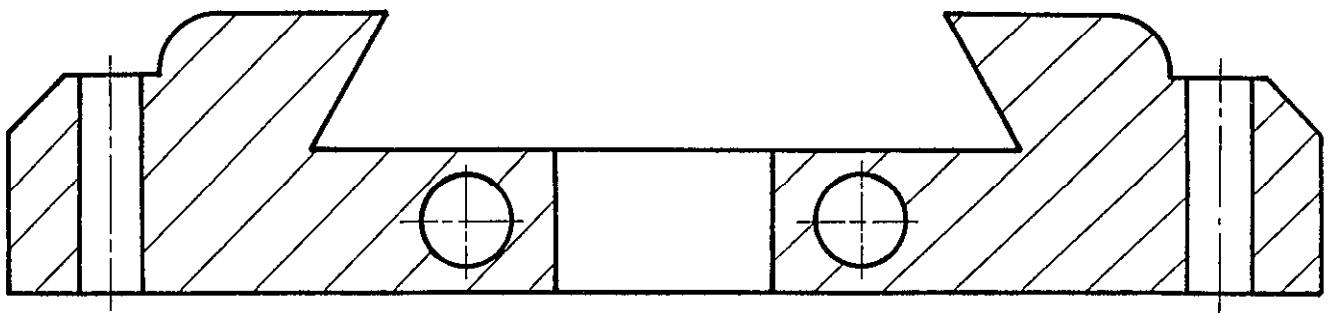

FIG. 8.3
- (iv) List a selection of six commands necessary to produce the drawing shown in Fig 8.3.